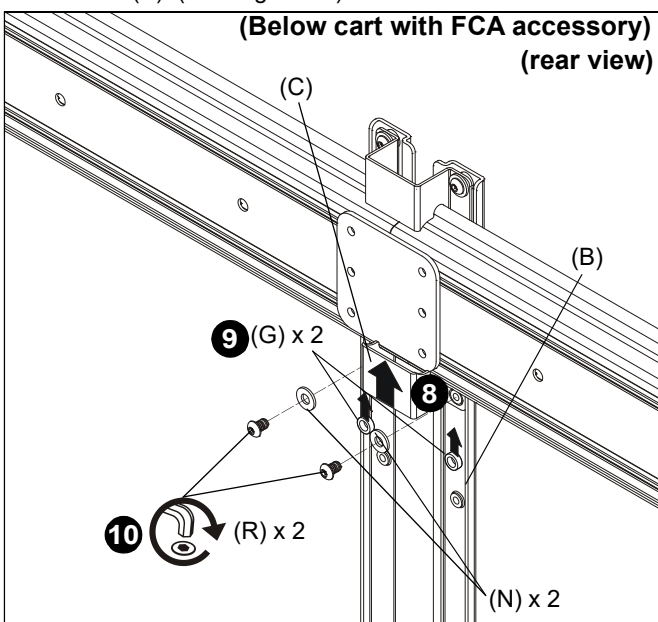

Figure 10
8. Slide second shelf bracket (C) underneath head assembly, lining up holes on shelf bracket (C) to holes on main bracket (B). (See Figure 10)
9. Slide two 1/2" spacers (G) in between shelf bracket (C) and main bracket (B). (See Figure 10)
10. Use two 1/4-20 x 7/16" button head cap screws (R) and two large washers (N) to secure shelf bracket (C) to main bracket (B). (See Figure 10)